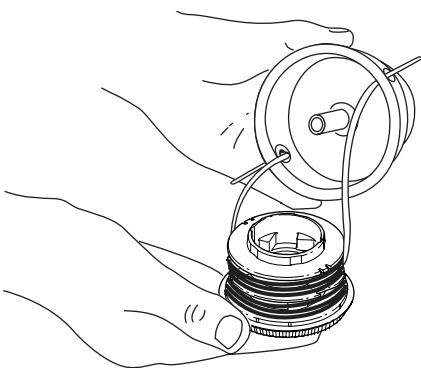

Fig. 48
- Insert the ends of the prewound inner reel line into the outer spool eyelets (Fig. 48). Push the new inner reel, arrow side up, into the outer spool.
3. Pull the inner reel with existing line from the outer spool (Fig. 48).